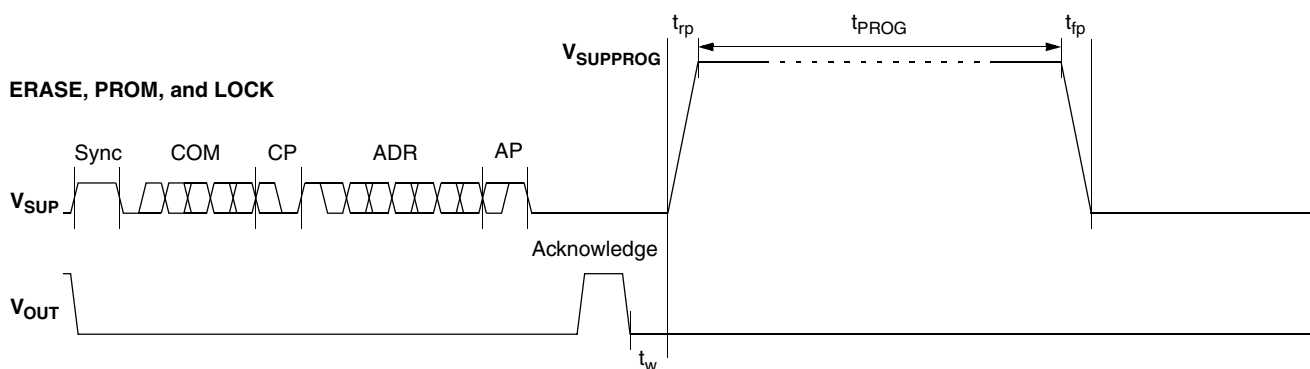

Fig. 6-4: Telegram for coding the EEPROM programming
- Programming the EEPROM cells (see Fig. 6-4)